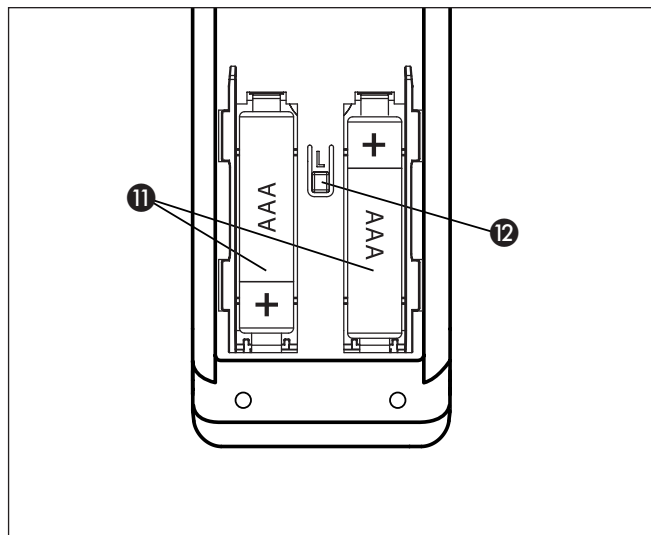

Fig. 3 Back of the WMS Hand-held transmitter comfort
- In order to replace the batteries (type AAA, IEC LR03, "Micro"), open the battery compartment (*Fig. 3*) and insert the new batteries. Ensure the correct polarity: The plus (+) and minus (-) poles of the batteries must match up with the markings in the battery compartment.